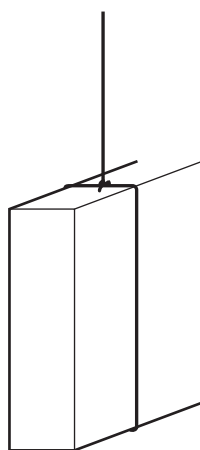

Fig. 1.1
2. The threads must be tied securely to the metre rule so that the metre rule hangs with its scale vertical and facing the candidate as shown in Fig. 1.1. Candidates must be able easily to slide the loops of thread to different positions along the scale of the metre rule.